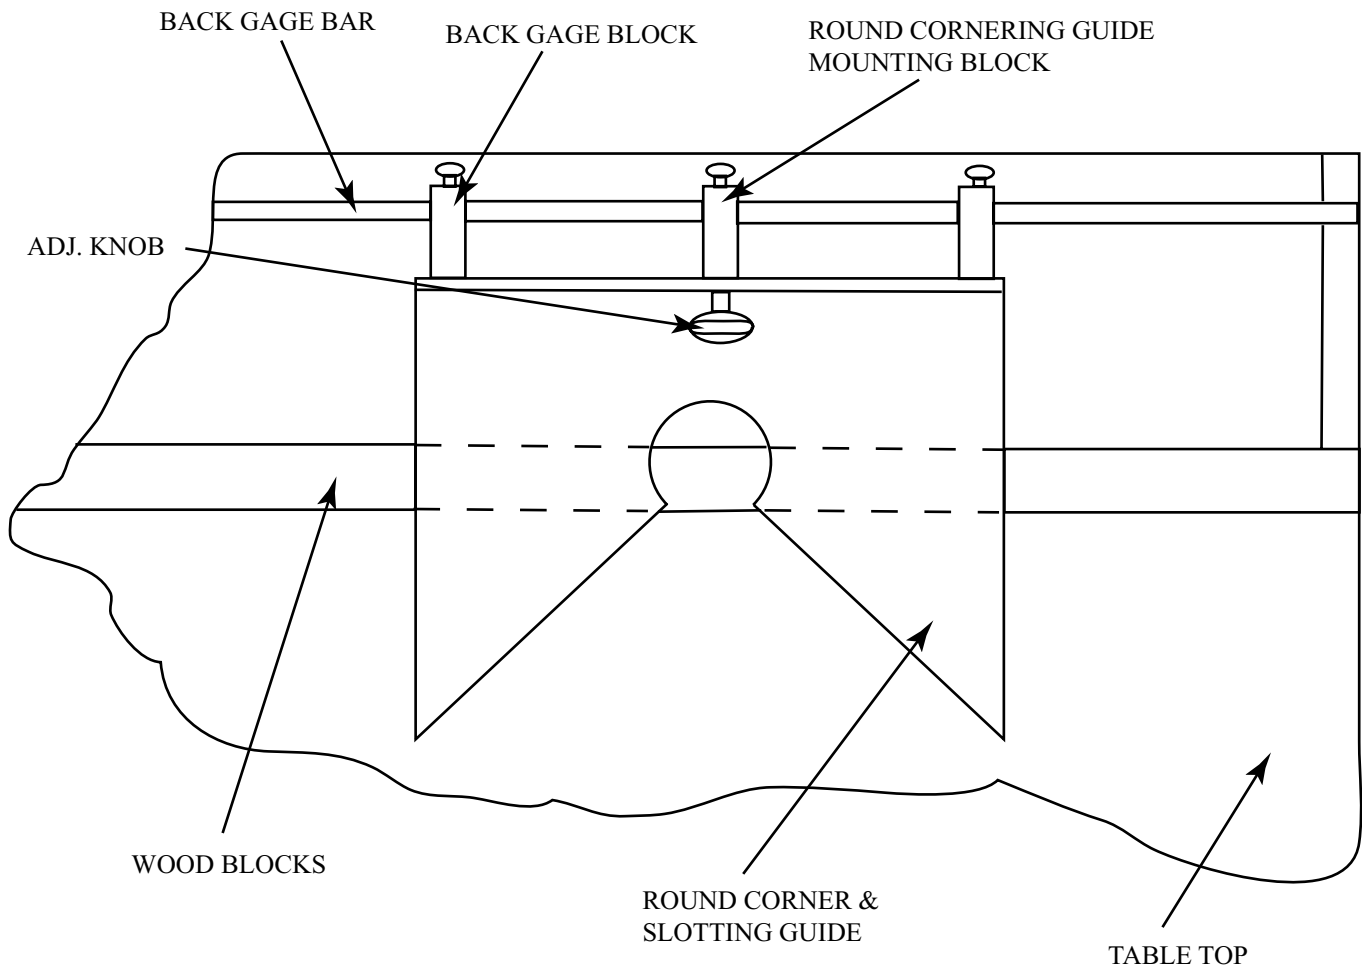

FIGURE 1
L) Fasten the mounting block and cornering guide together. Mount the assembly to the back gage bar as shown in Figure 1, using the existing back gage blocks as supports at each end.
M) Use the impression in the wood block to set the corner guide. Use the back gage bar clamps to adjust the guide knob shown in Figure 1 to make slight adjustments to the left or right.